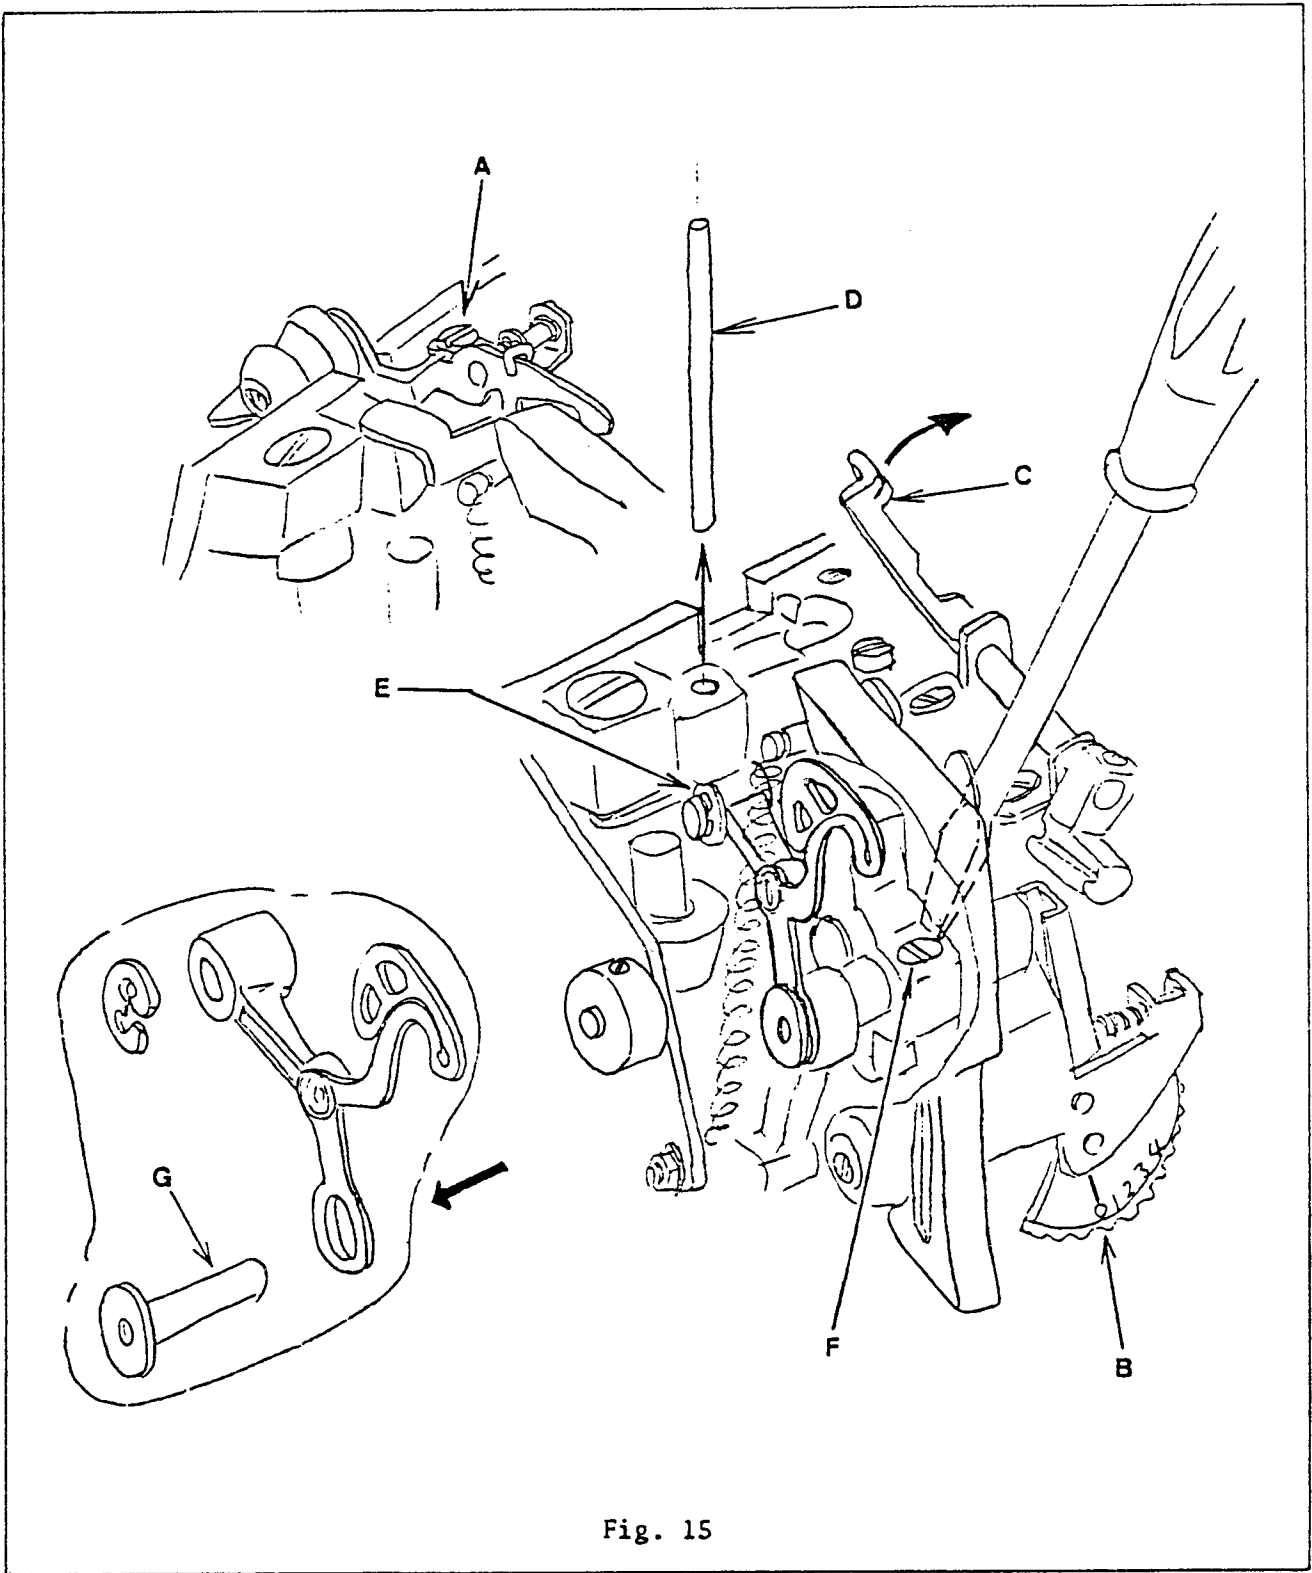

Fig. 15
2. Loosen screw (A). (Fig. 15).
3. Set tension dial (B) to "0", swing tension release actuating lever (C) up and to the right (Fig. 15). Remove retaining ring (H) and pull tension releasing pin (D) up and out of machine.
4. Remove retaining ring (E) from take-up lever link hinge stud.
5. Loosen needle bar crank shaft set screw (F).
6. Hold needle bar connecting link and ease out thread take-up stud (G) and take-up lever assembly.